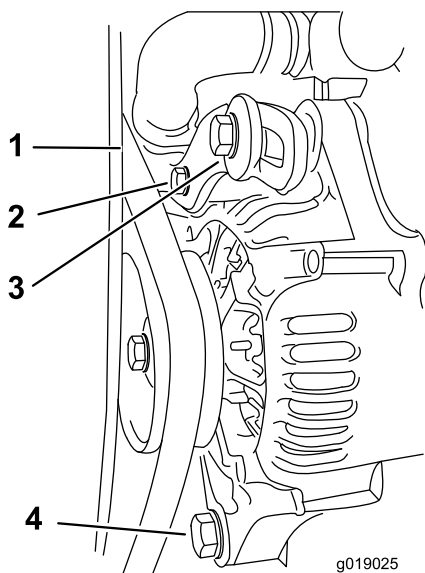

Figure 37
1. Push the drive belt with your thumb in the area shown to check the tension (Figure 37).